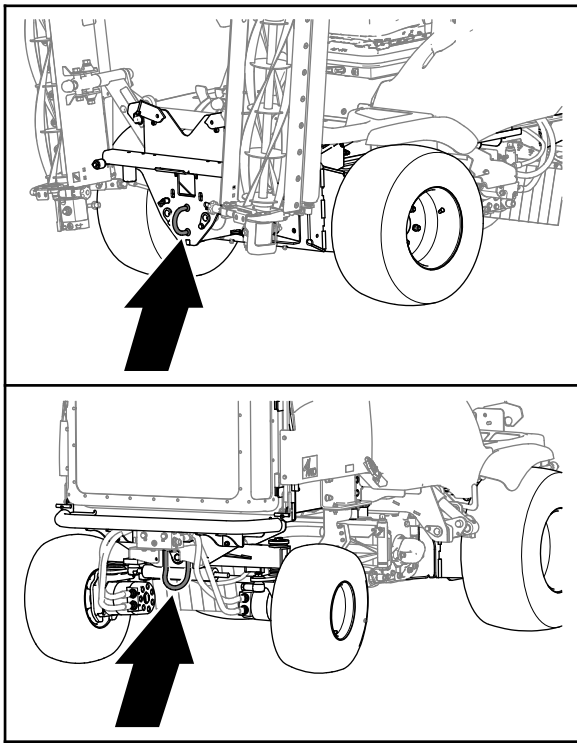

Figure 34
5. Connect a **rigid** tow bar between the front tow ring of the machine and the tow vehicle (Figure 34).